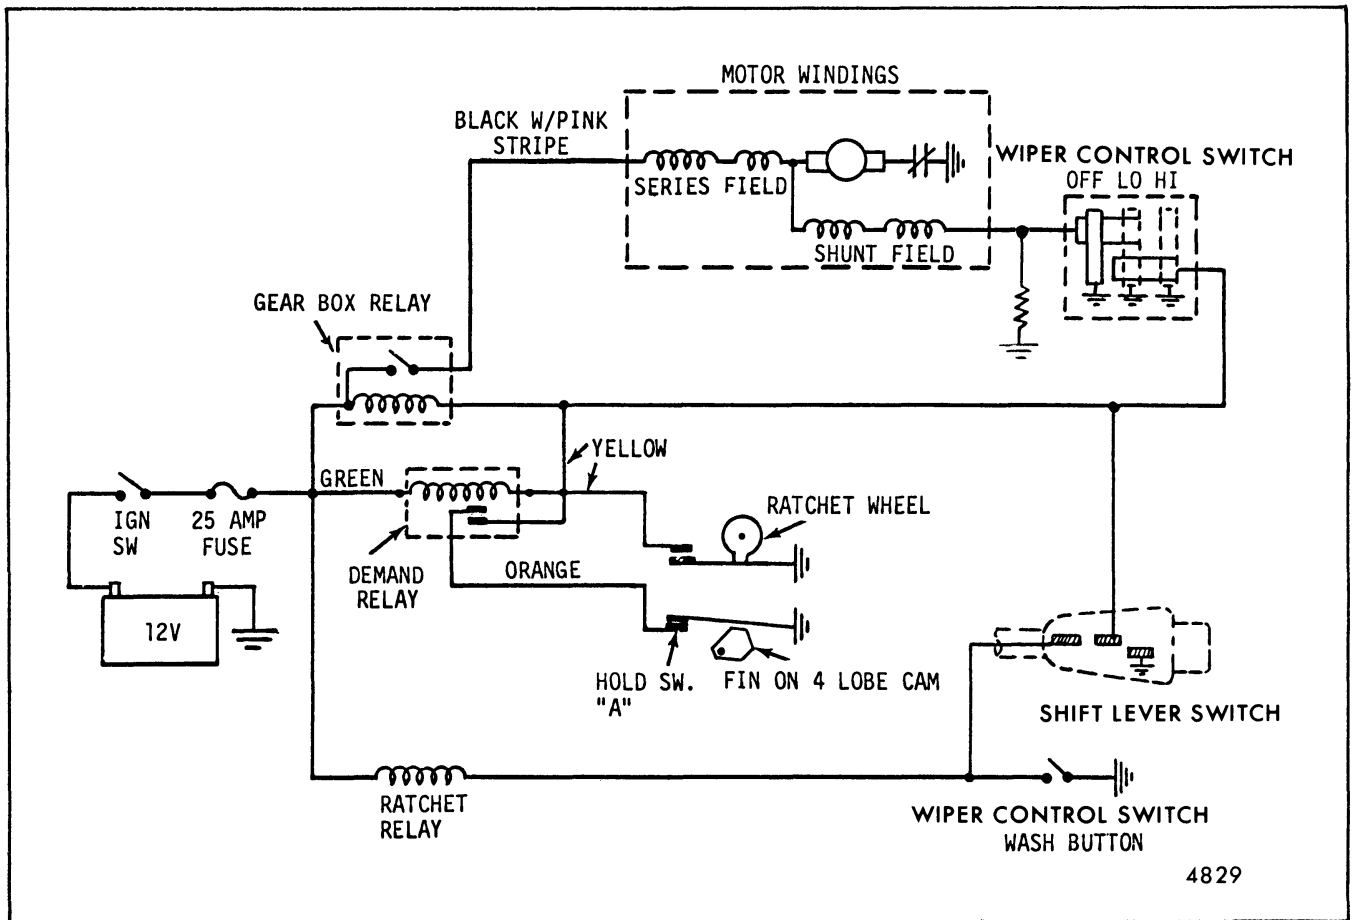
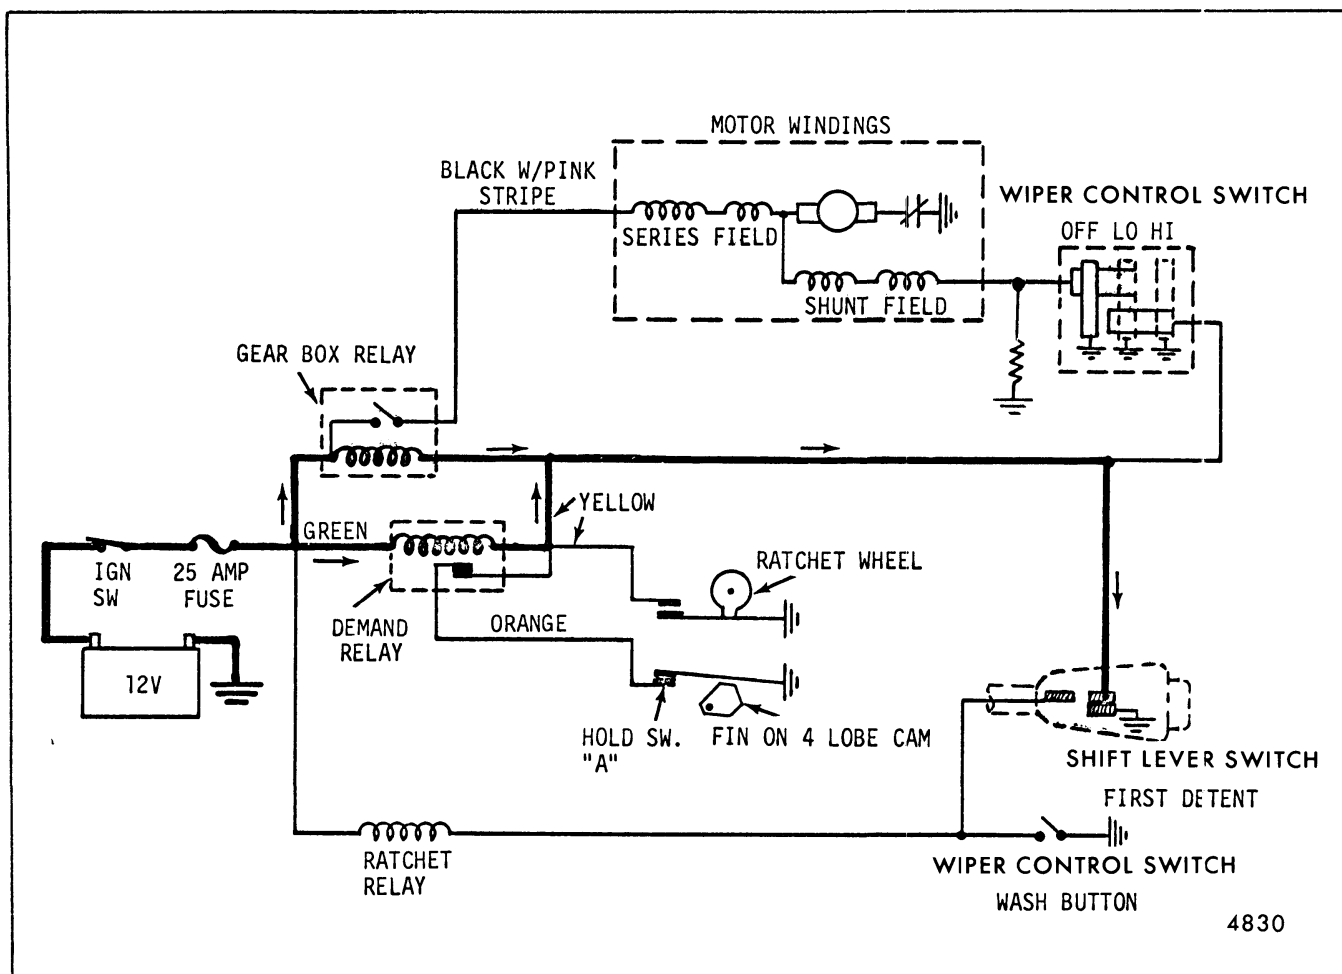

Fig. 2-52-Demand Wiper Circuits - Off Position
Fig. 2-53-Switch in First Detent Position
demand relay are completed to ground simultaneously at the shift lever switch. Figure 2-52 shows wiper circuits in "OFF" position. Figure 2-53 shows the shift lever switch in the first detent position and the completed relay coil circuits.
2. With both relay coils energized, the gear box relay contacts close completing the feed circuit to the wiper motor windings and at the same time the demand relay contacts close completing a holding circuit to ground through the normally closed holding switch contacts "A" (Fig. 2-53).